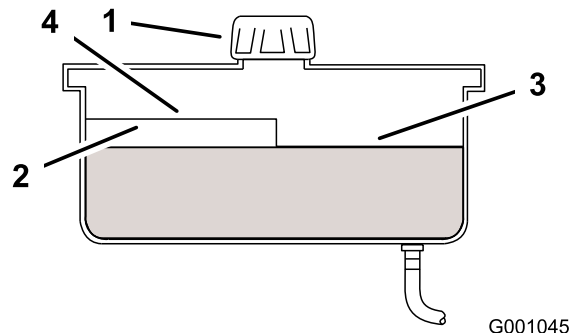

Figure 78
2. Clean the area around filler neck of hydraulic tank (Figure 78).
3. Remove the cap from the filler neck. Look inside to check if there is fluid in the reservoir (Figure 78).
Note: The fluid level should be to the top of the hot level of the baffle, when the fluid is hot (Figure 78).